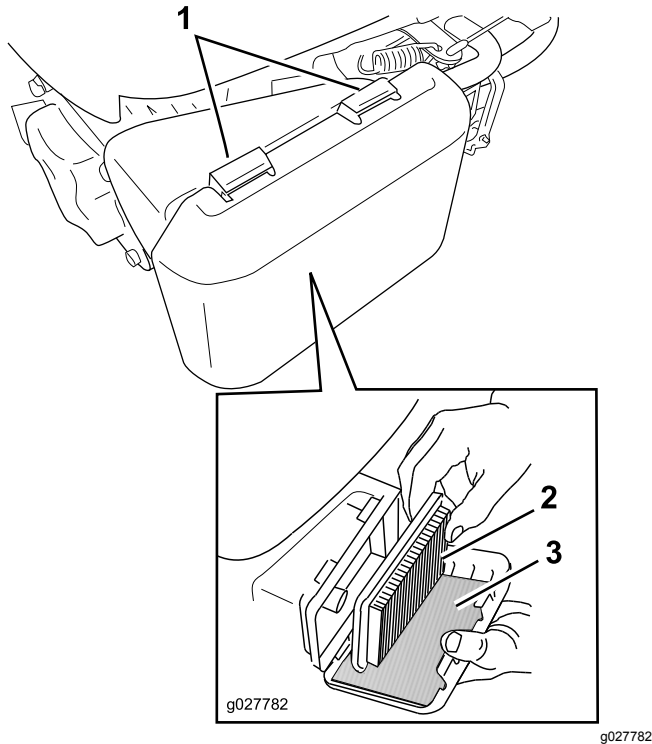

Figure 25
1. Press down on the latch tabs on top of the air-filter cover (Figure 25).
3. Remove the paper air filter and the foam pre-filter (Figure 25).